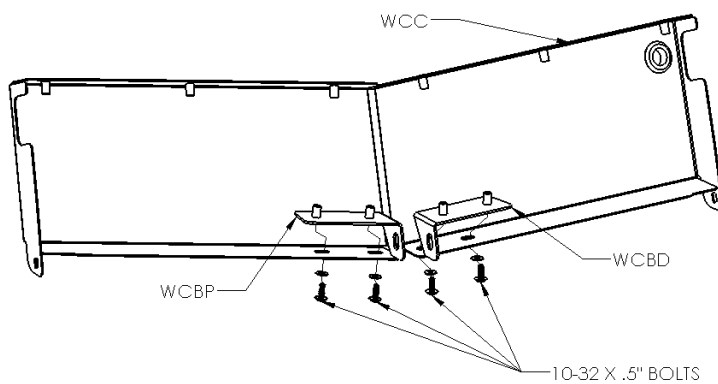

FIGURE 6 – Center Wire Cover, Wire Cover Bracket installation, shown from front view
8. Using Loctite on bolts, install the Wire Cover Brackets (WCBP & WCBP) to the Center Wire Cover with the supplied 10-32x1/2" truss head bolts and flat washers. Leave bolts loose so that the brackets can move freely. (FIGURE 6)